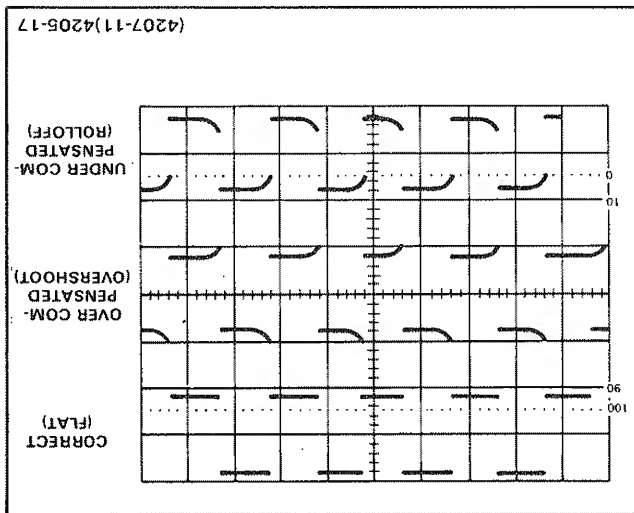

Fig. 3-2. Probe compensation.
7. Check the waveform presentation for overshoot and rolloff (see Figure 3-2). If necessary, adjust the probe compensation for flat tops on the waveforms. Refer to the instructions supplied with the probe for details of compensation adjustment.